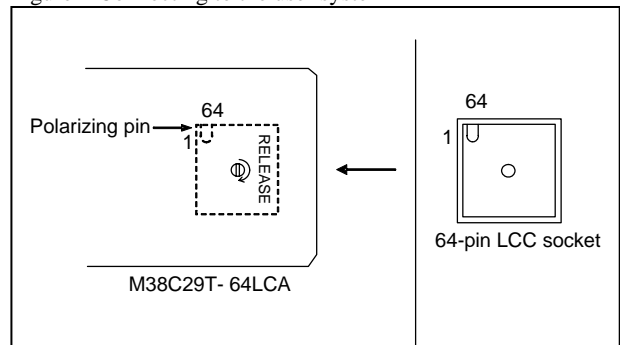

Figure 5 Removing from the user system
- (1) Turn the screw for releasing the LCC socket clockwise as shown in Figure 5.
- (2) The M38C29T-64LCA is pushed out from the 64-pin LCC socket.
- (3) After the socket is removed, turn the screw until it clicks.